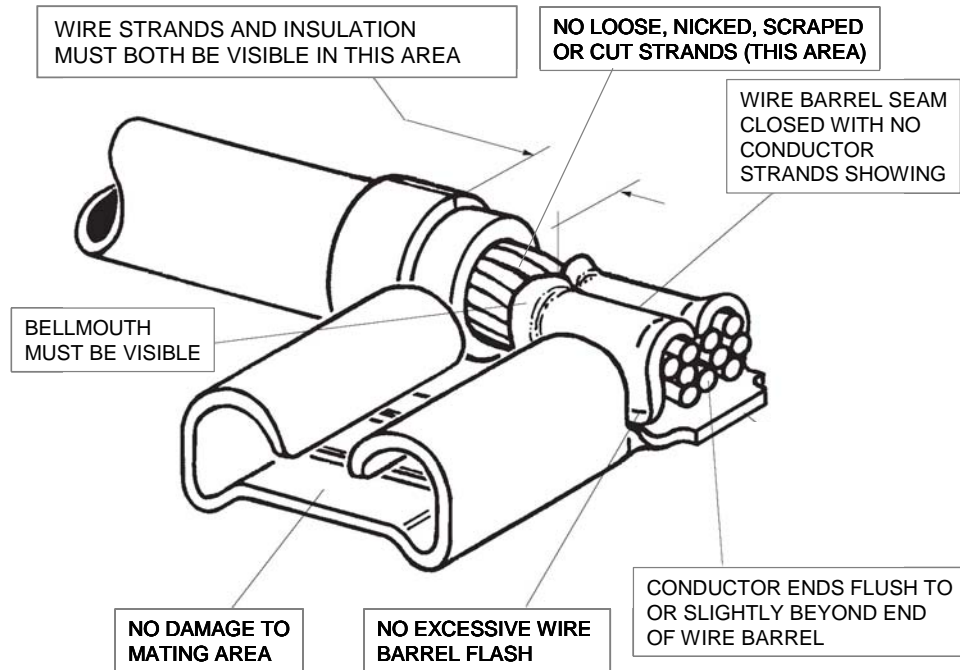

FIGURE 3
3. Whenever access allows, inspect the wiring terminals (Flag Terminals) for integrity as shown in Figure 3.